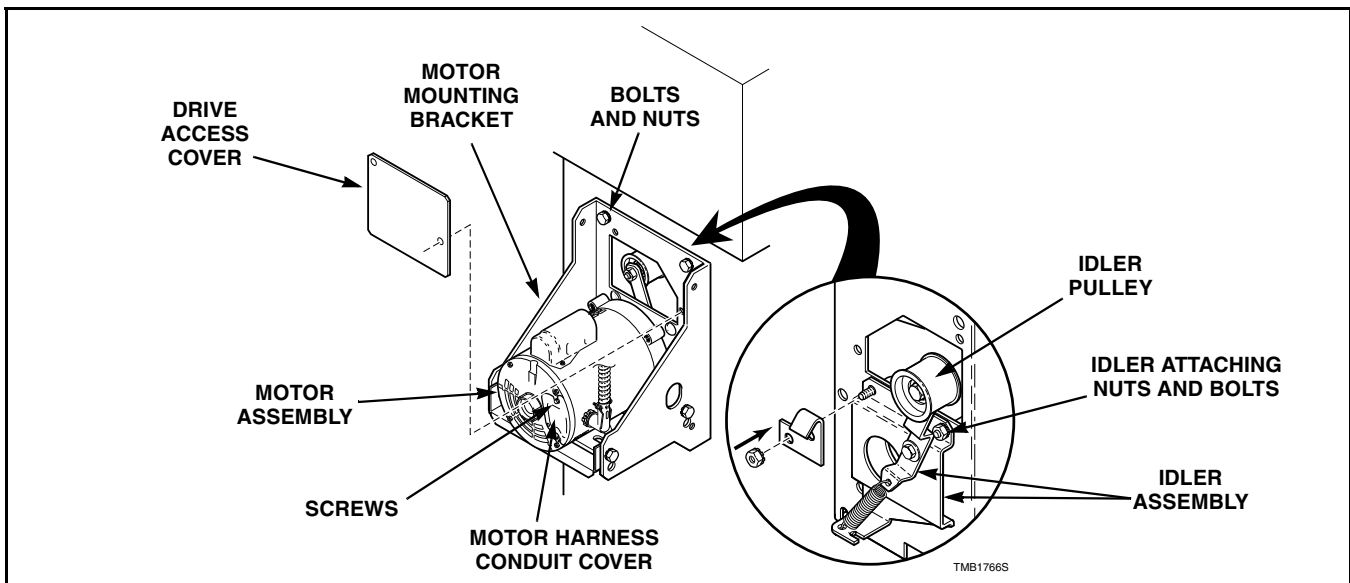

Figure 18
Refer to *Figure 18*.
- f. Reach into cabinet and carefully apply downward pressure on idler pulley. Slide belt off motor pulley and then slowly release pressure on idler pulley. Refer to *Figure 18*.